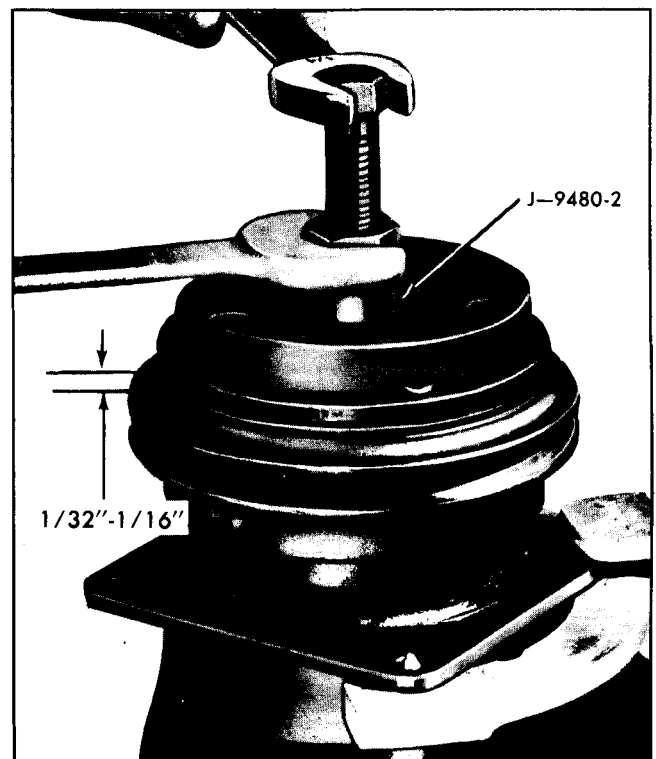

Fig. 1A-65 Installing Hub and Drive Plate Assembly
2. Remove pulley assembly retainer ring, using J 6435, No. 26 pliers, (Fig. 1A-66).